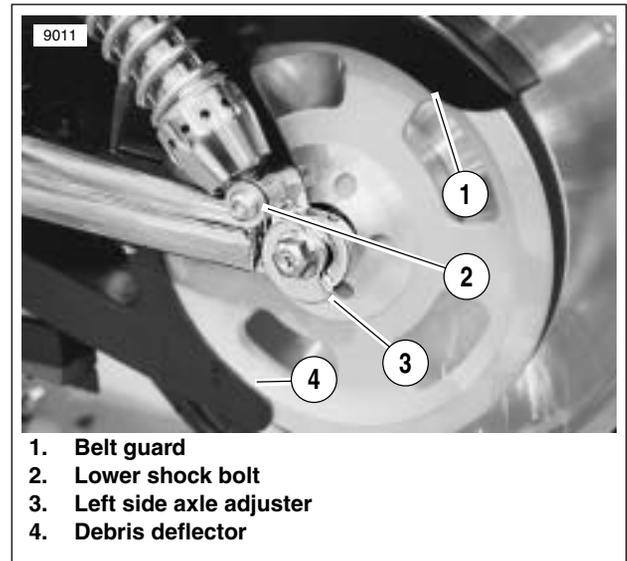
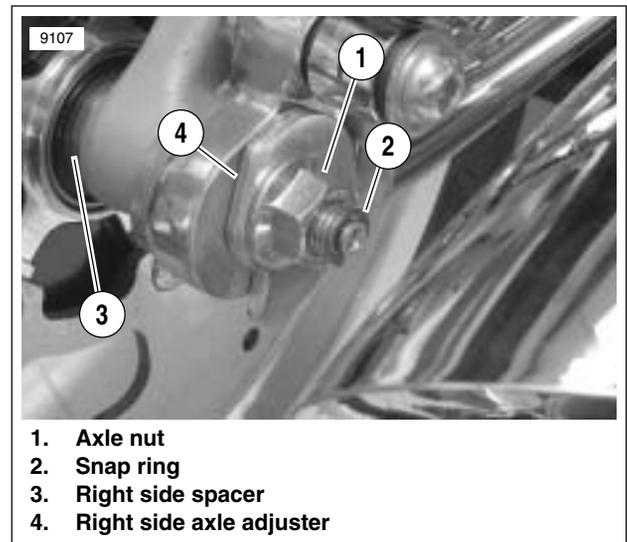

Figure 2-71. Rear Axle: Left Side
Figure 2-72. Rear Axle (right side)
3. See Figure 2-71. Remove fasteners holding lower debris deflector (4) to rear fork. Remove debris deflector.
4. If necessary, remove fasteners holding belt guard (1) to rear fork. Back lower shock bolt (2) out until belt guard is free and remove belt guard. Shock bolt retaining threads are integral to belt guard. Leave shock bolt in place to maintain alignment.
5. See Figure 2-72. Remove snap ring (2), axle nut (1) and adjuster (3) from right side of axle.